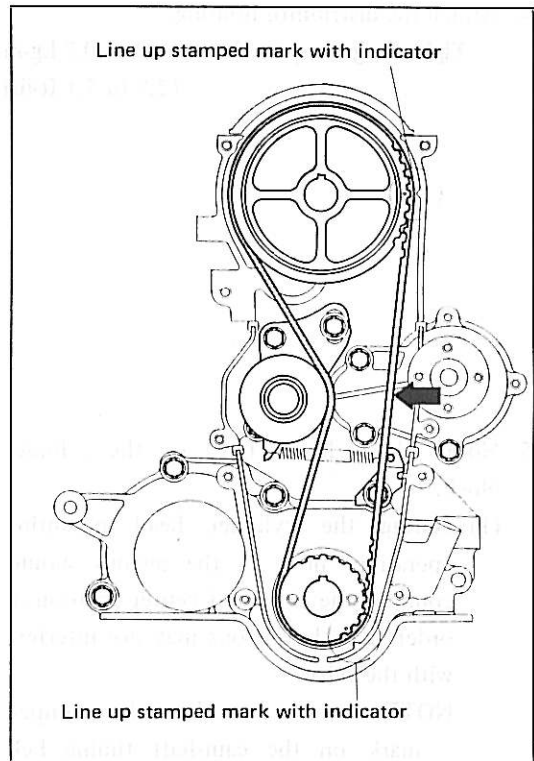

Fig. 3-90 Installing Timing Belt
(2) Install the timing belt as follows.
① Ensure that the stamped marks are aligned with the indicator marks, respectively, as indicated in Fig. 3-90.
② Temporarily attach the timing belt tensioner.
1. While installing the timing belt, be certain that the belt is not slackened at the side indicated by the arrow-head in Fig. 3-90.
⑤ Rotate the crankshaft further two turns in the normal direction, until the
⑥ With the timing belt under the conditions as described in paragraph 5 above, tighten the setting bolts of the timing belt tensioner in this order; first the adjustable side having an elongated hole and then the fulcrum side.